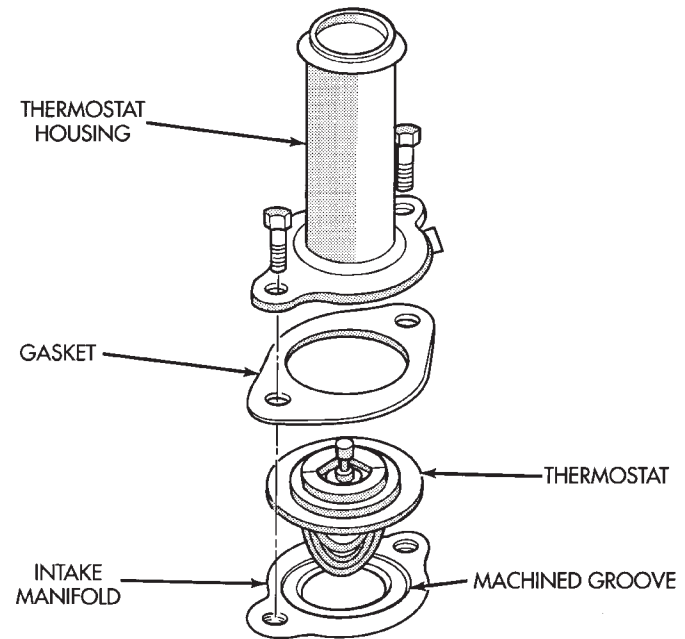

Fig. 29 Thermostat—5.2L Engine
(6) Position wiring harness (behind thermostat housing) to gain access to thermostat housing.
(7) Remove thermostat housing mounting bolts, thermostat housing, gasket and thermostat (Fig. 29). Discard old gasket.
(1) Clean mating areas of intake manifold and thermostat housing.
(2) Install thermostat (spring side down) into recessed machined groove on intake manifold (Fig. 29).
(3) Install gasket on intake manifold and over thermostat (Fig. 29).